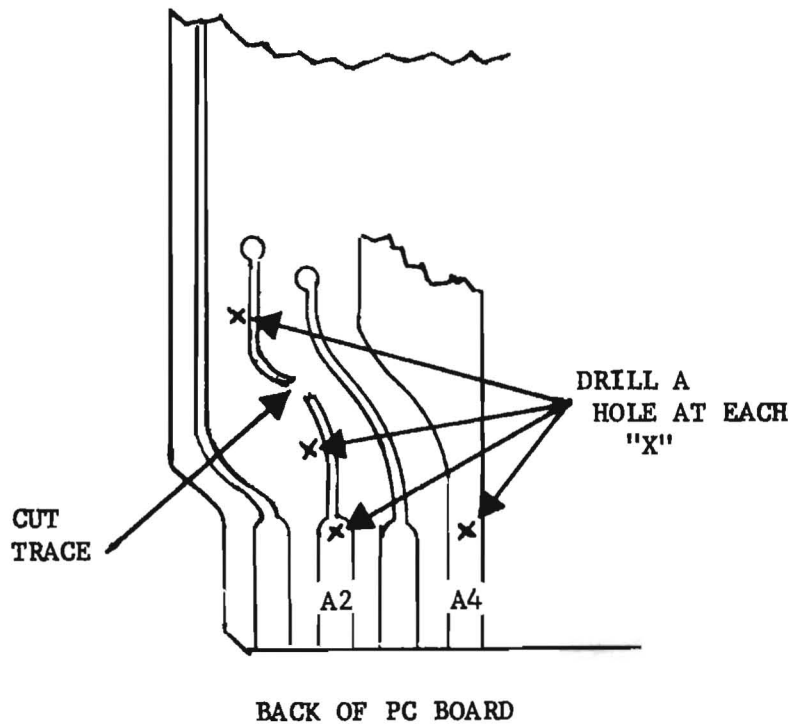

FIGURE 1
2. Cut the printed circuit trace as indicated on figure 1.